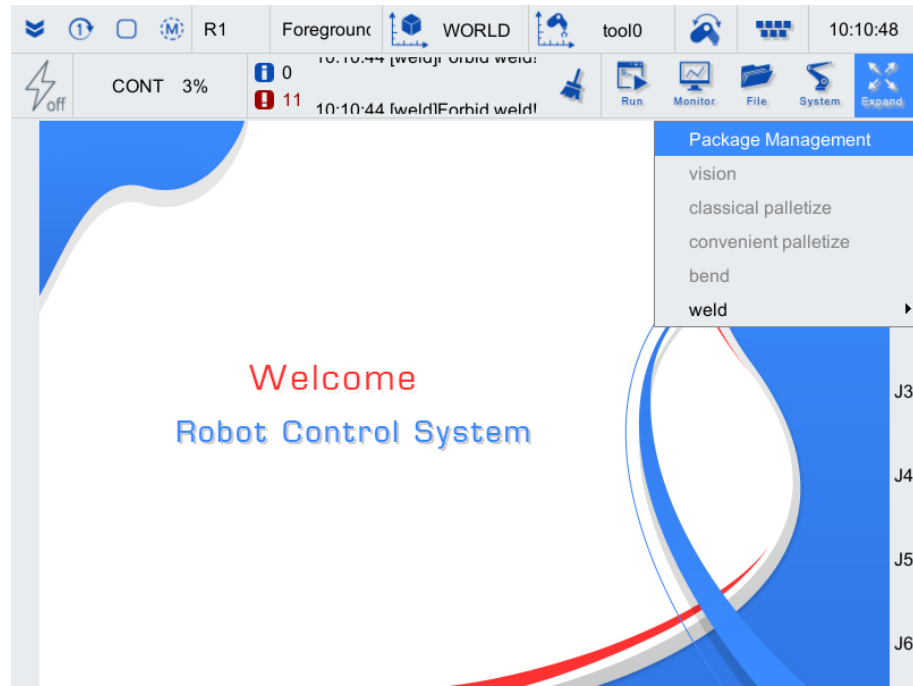

Figure 4-7 List of feature pack
Step1. Click the "Expand" button to pop up a drop-down list, as shown in Figure 4-7.